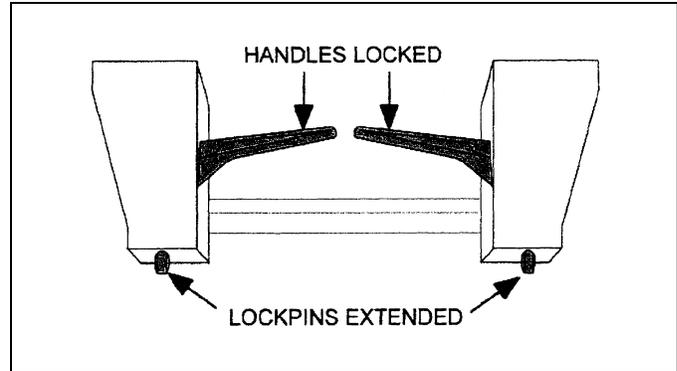

Figure 11 – Attachment Coupler Handles – Locked
8. Engage the latching mechanism to secure attachment to loader. The lockpins must be completely extended and secured into the retaining slots provided on the attachment. Figure 11.